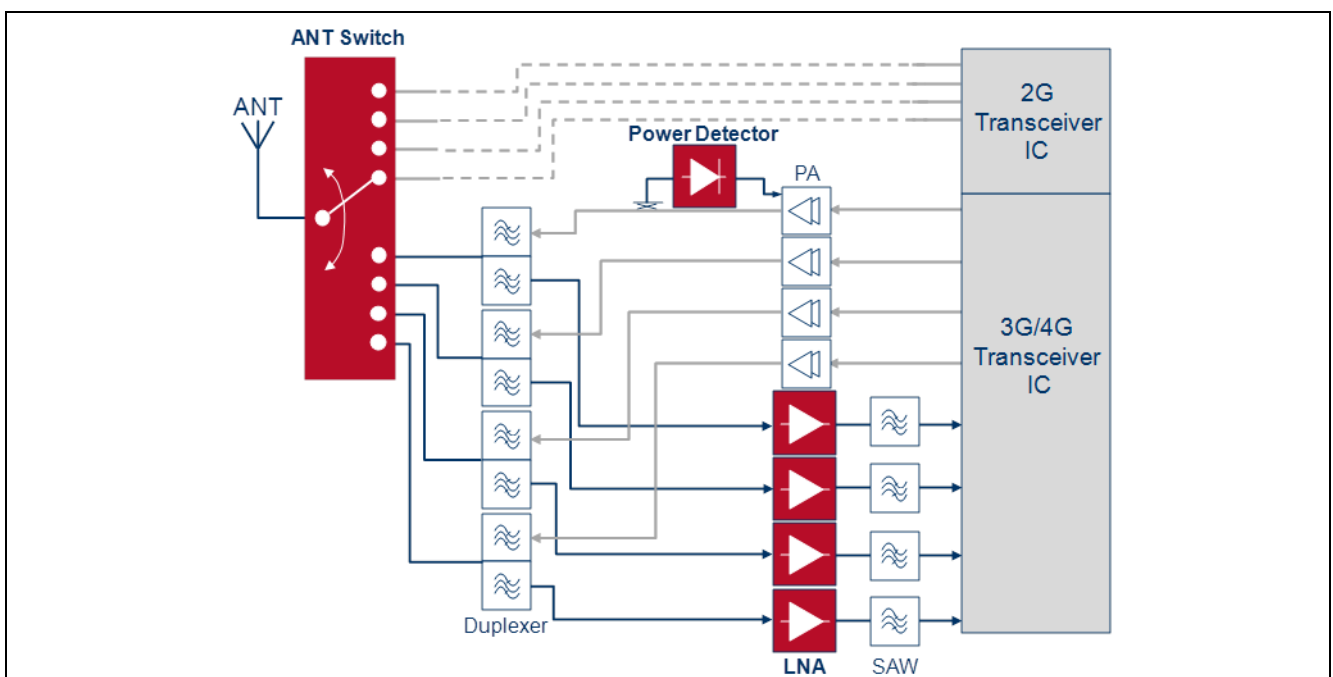

Figure 1 Example of Application Diagram of RF Front-End for 3G and 4G Systems.
Figure 1 shows an example of the block diagram of the front-end of a 4G modem. A SPnT switch connects one side the antenna and several duplexers for different 4G bands on the other side. Every duplexer is connected to the transmitting (TX) and receiving (RX) paths of each band. The external LNA, here for example Infineon single-band LNA BGA7L1N6, is placed on the RX path between the duplex and the bandpass SAW filter. The output of the SAW filter is connected to the receiver input of the transceiver IC.